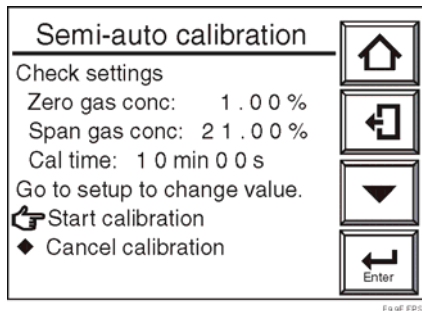

Figure 9-9 Semi-automatic Calibration Display
2. Select Semi-autocalibration from the Calibration display screen as shown in Figure 9-9.